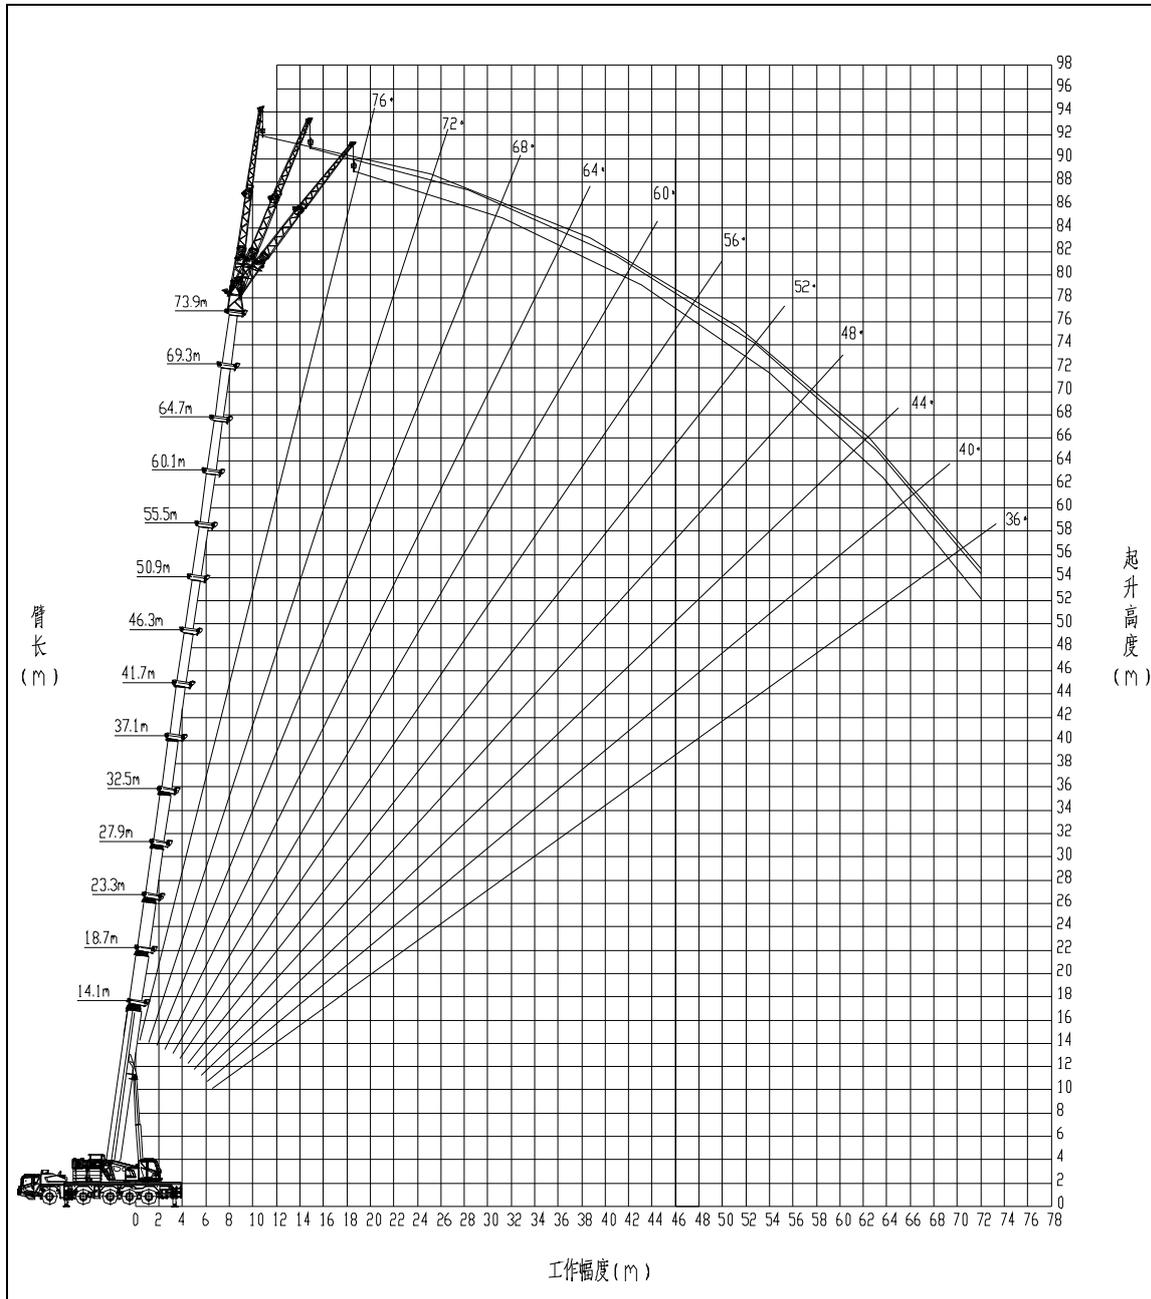

Figure 1-18 73.9 m main boom + jib variant 2 (17.5 m)
- a) For the lifting height chart for 73.9 m main boom + jib variant 2 (17.5 m), refer to Figure 1-18.